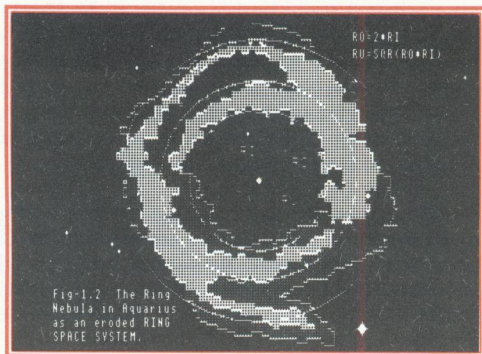

Figure 1.2
Which brings us to the Asteroid Belt (2). By now, I hope you have forgotten all that 'balls-of-fire' nonsense describing the creation of the Solar System. Likewise, forget that other theory about a fictitious planet Vulcan which broke up to form the Asteroid Belt! In line 150, we determine the *inner* and *outer* limits of the original Belt before it became eroded. $RI = \text{SQR}(1/2) * RU$, and $RO = \text{SQR}(2) * RU$. Thus $RO = 2 * RI$. With the passage of time, the outer portion of the Belt becomes lost to the System, and the final outer limit is at RU. You can see pictures of this in your astronomy book. The Ring Nebula in Lyra is typical of the original planetary nebula in that its outer diameter is *twice* its inner diameter. The Ring Nebula in Aquarius, on the other hand, as shown in Fig.1.2, evidences signs of erosion down to its final outer limit at unit radius. You will notice in this particular instance the manner in which the unit radius of the system begins to make itself evident.